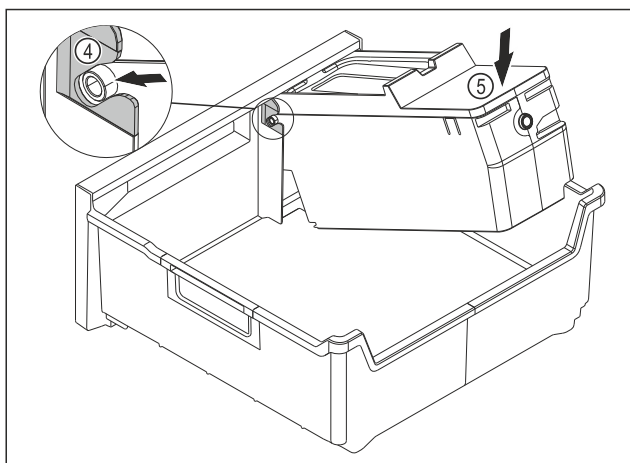

Fig. 128
- ▶ Installing the EasyTwist-Ice body: Push the axes for the EasyTwist-Ice body into the guides Fig. 128 (4).
- ▶ Press the EasyTwist-Ice body Fig. 128 (5) down at the back.